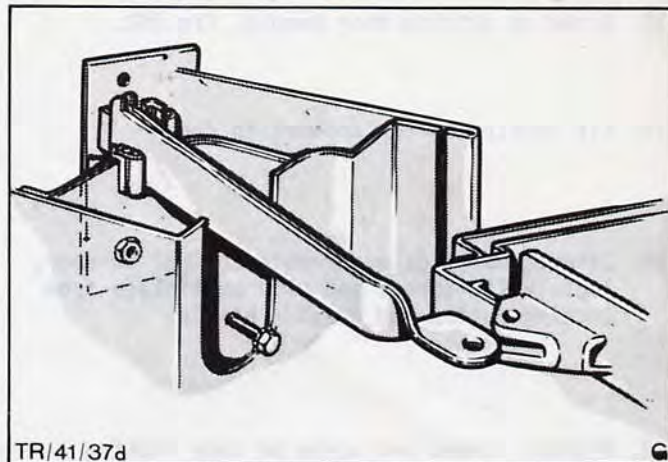

Fig.99. Remove pin and retaining ring connecting check strap mounting on A pillar.
12. Remove check strap (2 screws), Fig.99.